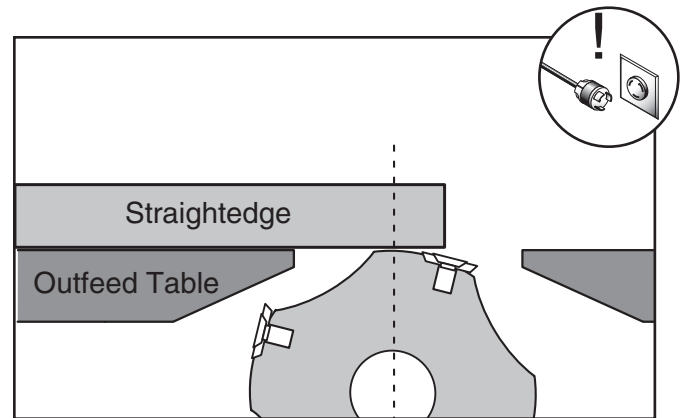

Figure 45. Adjusting outfeed table even with cutterhead body.
5. Place the straightedge on the outfeed table so it hangs over the cutterhead, then lower the outfeed table until the straightedge just touches the cutterhead body, as shown in **Figure 45** (rotate the cutterhead if necessary).
1. Place the straightedge on the outfeed table so it hangs over the cutterhead, then lower the outfeed table until the straightedge just touches the cutterhead body, as shown in **Figure 45** (rotate the cutterhead if necessary).